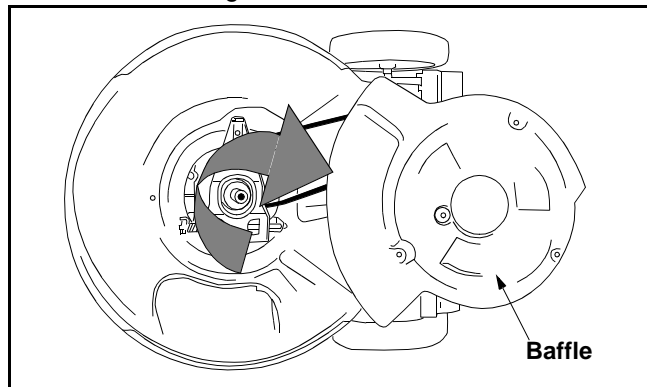

Figure 17
- Remove the three hex screws holding the baffle to the deck and pivot baffle towards the rear of the mower. See Figure 17.